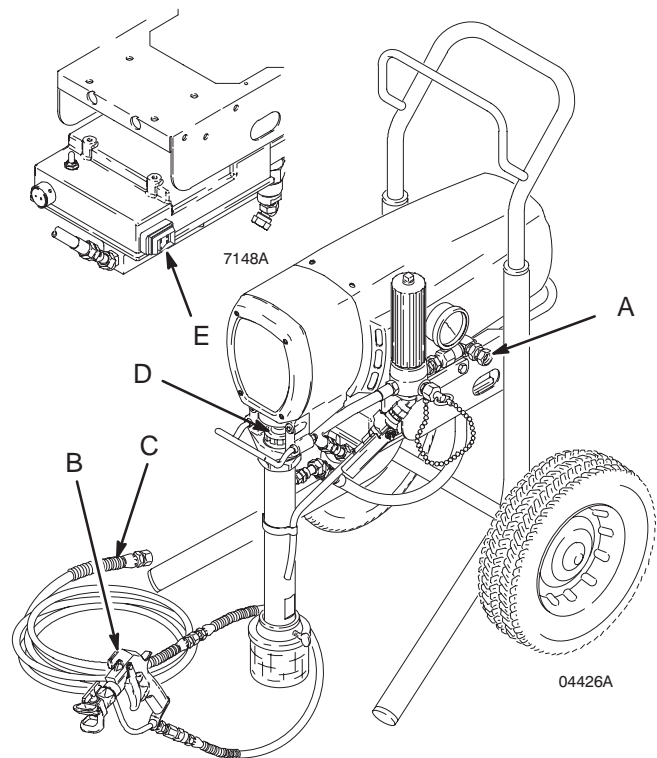

Fig 2
3. Never install any shutoff device between the filter and the hose. See A, Fig. 2.
1. Connect gun (B) and 50 ft hose (C). Don't install the spray tip yet. See Fig. 2.
2. Fill wet-cup (D) 1/3 full with Graco Throat Seal Liquid, supplied.
3. Check electrical service. Be sure electrical service is 120 Vac, 60 Hz, 20 A. Use properly grounded outlet. Do not remove grounding prong of power supply cord or of any extension cords used. Do not use an adapter. Extension cords must have 3 wires of minimum 12 gauge size. Long extension cords reduce sprayer performance. If 20 amp service is not available, set 15/20 amp switch (C) to 15 amp to avoid nuisance tripping of circuit breakers.
4. With switch (E) to OFF, plug power supply cord into grounded electrical outlet located at least 20 ft away from spray area.